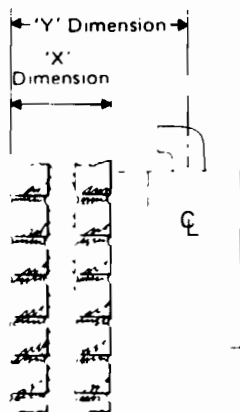

FIG. 17
(1) FOR REAR FLUE OUTLET (Fig. 17)